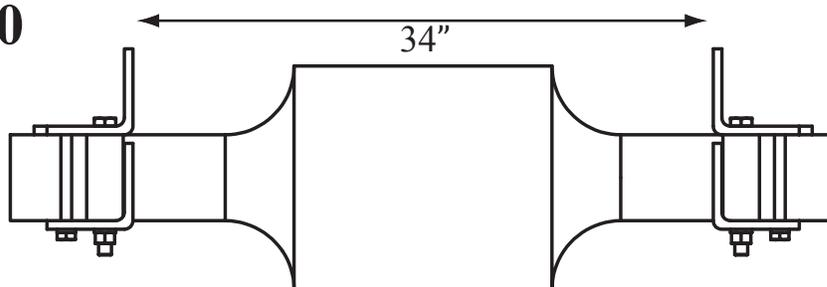

Figure 2
Step 4. Adjust (with hammer taps if needed) left and right axle brackets so that the inside measurement of the axle brackets is 34". (Figure 2)